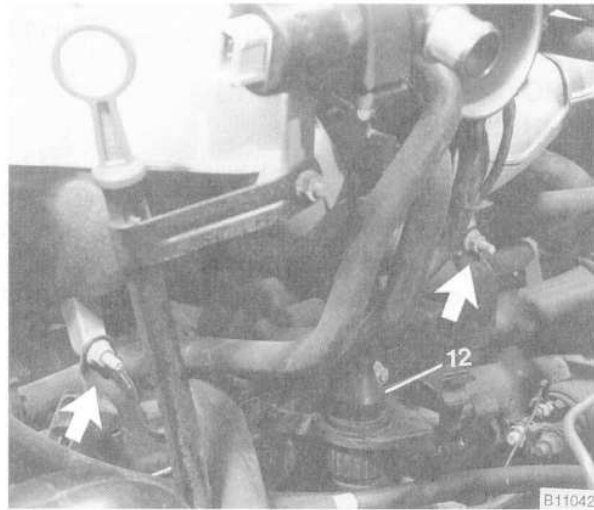

Fig. 3. Main wiring harness connector bracket under intake manifold (12). Also remove bracket mounting nuts (arrows).
9. Disconnect the main harness connector at the bracket beneath the intake manifold and remove connector from the bracket. Remove the bracket mounting nuts. Pull the wiring bracket off the mounting studs. See Fig. 3.